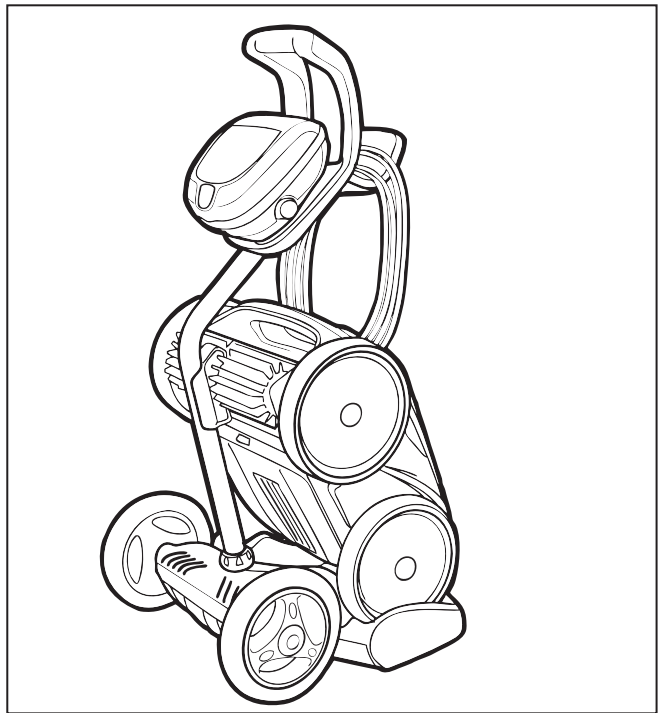

Figure 22. Cleaner Stored Correctly on Caddy
2. Place the cleaner in vertical position on the caddy base with the rear tracks on the caddy side wedges (see Figure 22).